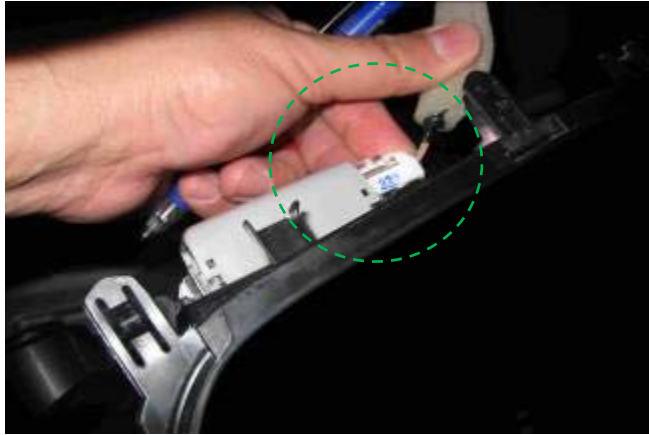

Figure 1-31
- e) Disconnect white electrical connector (Figure 1-31) from cargo lamp in the back of the panel.